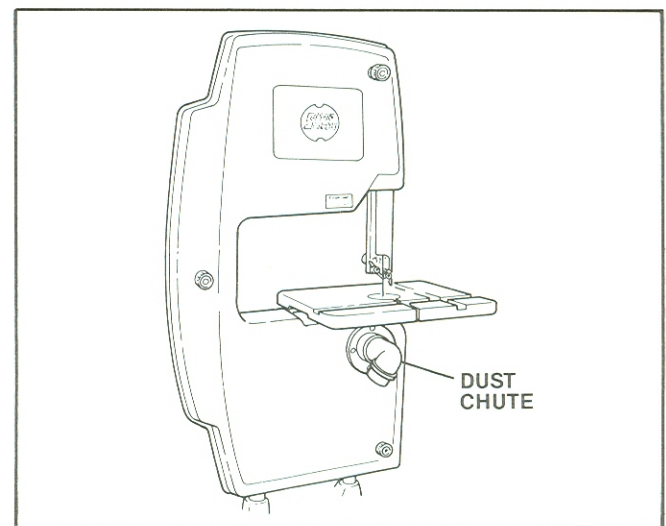

Figure 2. Position elbow at 45° angle.
3. Locate and drill the mounting holes. Looking through the cutout hole from the back of the cover, center the dust chute flange on the hole so that the elbow is at a 45° angle as shown in Figure 2. Firmly holding the dust chute in position, mark the centers of the four mounting holes. Drill the mounting holes with a 3/16" bit.